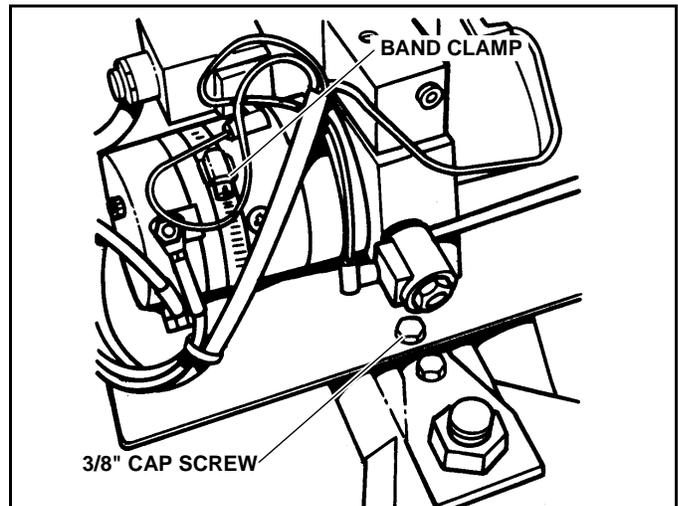

Figure 2-1
3. Remove the Cap Screw at the front of the pump platform. (See Figure 2-1)
- Loosen Band Clamp. (See Figure 2-1)